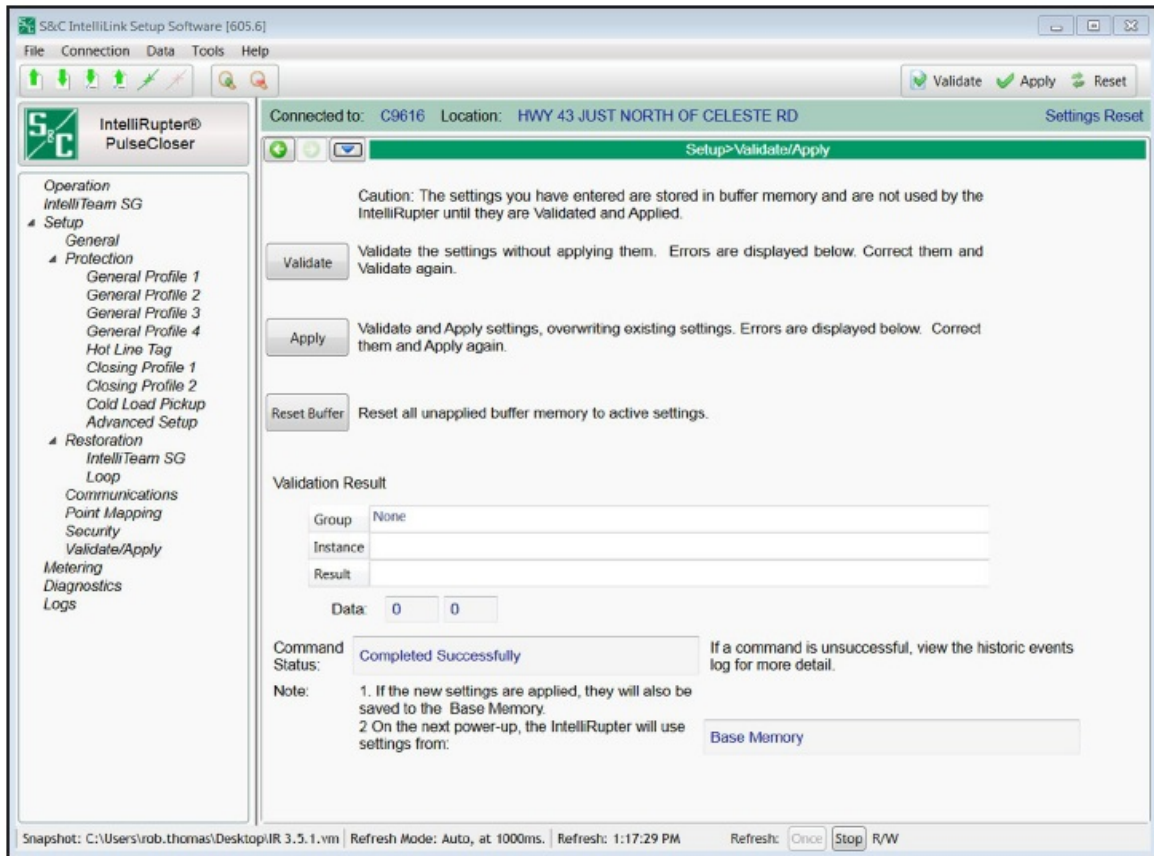

Figure 6. The Setup>Validate/Apply screen.
- **STEP 4.** Go to the Setup>Validate/Apply screen and click on the Apply button before shutting down. See Figure 6.